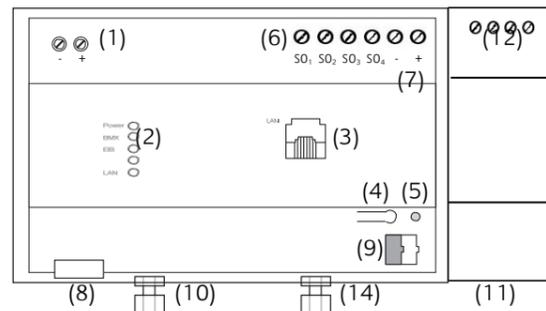

Figure 1: EIBPORT – Connection diagram
- For KNX: Connect bus line with the bus connecting terminal (figure 1, 9).
- For Powernet KNX: Connect line with connecting terminal (figure 1, 12).
- For EnOcean: Connect antenna for SMA female connector for EnOcean antenna (figure 1, 10).
- For GSM: Connect antenna for SMA female connector for GSM antenna (figure 1, 14). Further explanation see chapter "INITIAL SETUP".
- Connect voltage supply with the screw-type terminal (figure 1, 1) according to label (observe power consumption).
- Plug network line (LAN) in the RJ45 female connector (figure 1, 3).